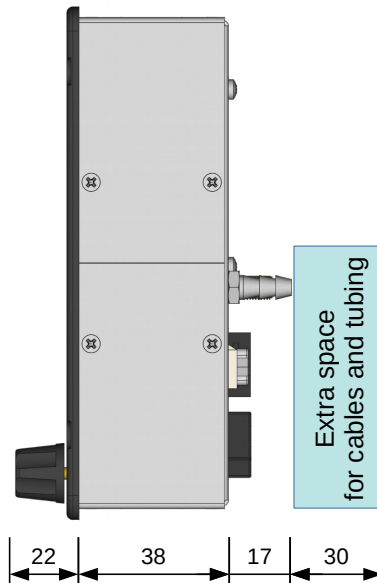

Figure 2.1: Aetos side view with dimensions.
- The display housing extends behind instrument panel and some extra space must also be allocated for the connectors, cables and tubes. See Figure 2.1 for more details.
The display main dimensions are shown on Figures 2.1 – 2.3 and Figure 2.4 shows the cutout.